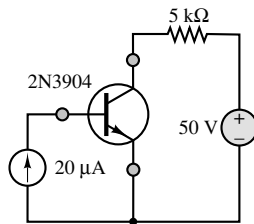

Figure P10.11
- 10.11** Use the collector characteristics of the 2N3904 *nnp* transistor to determine the operating point (I_{CQ} , V_{CEQ}) of the transistor in Figure P10.11. What is the value of β at this point?